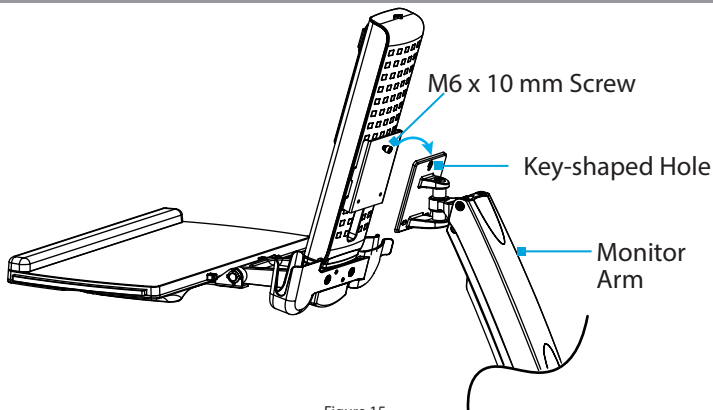

Figure 15
2. Hook the **M6 x 10 mm Screw**, attached to the column, into the **Key-Shaped Hole**, located at the top of the **Plate** on the **Monitor Arm**. (Figure 15)